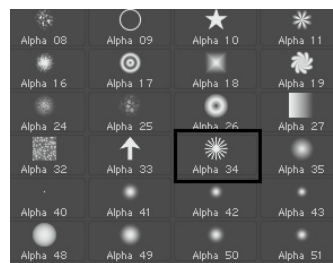

Figure 3-87 Alpha 34 chosen from the Alpha palette
9. Choose the Current Alpha button from the left shelf; a flyout containing different alpha images is displayed. Choose **Alpha 34** from this flyout, refer to Figure 3-87.